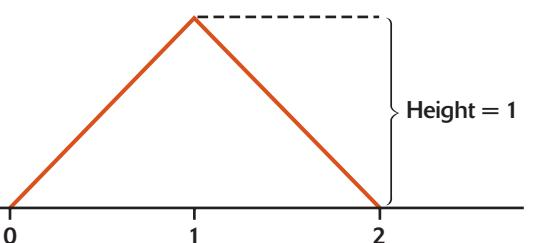

FIGURE 4.6 The density curve for the sum of two random numbers, for Exercise 4.21. This density curve spreads probability between 0 and 2.
- 4.21 **Adding random numbers.** Generate two random numbers between 0 and 1 and take T to be their sum. The sum T can take any value between 0 and 2. The density curve of T is the triangle shown in Figure 4.6.